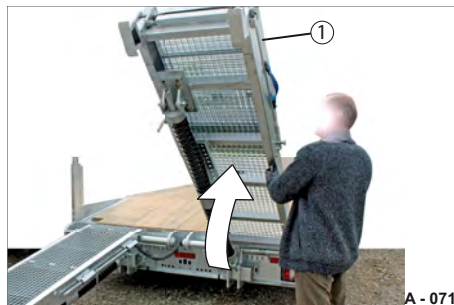

Fig. 108 Raising the drive-up ramp, two-piece
- ▶ Press the ramp (Fig. 108/1) upwards into the vertical position.